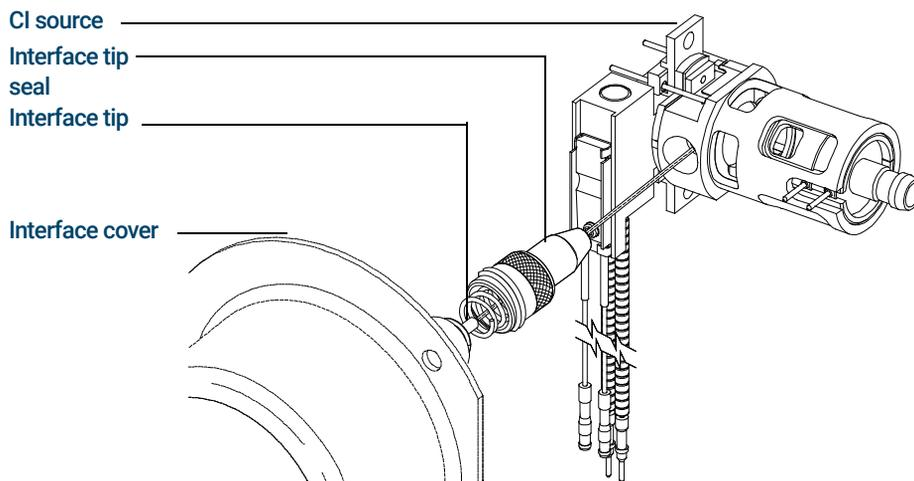
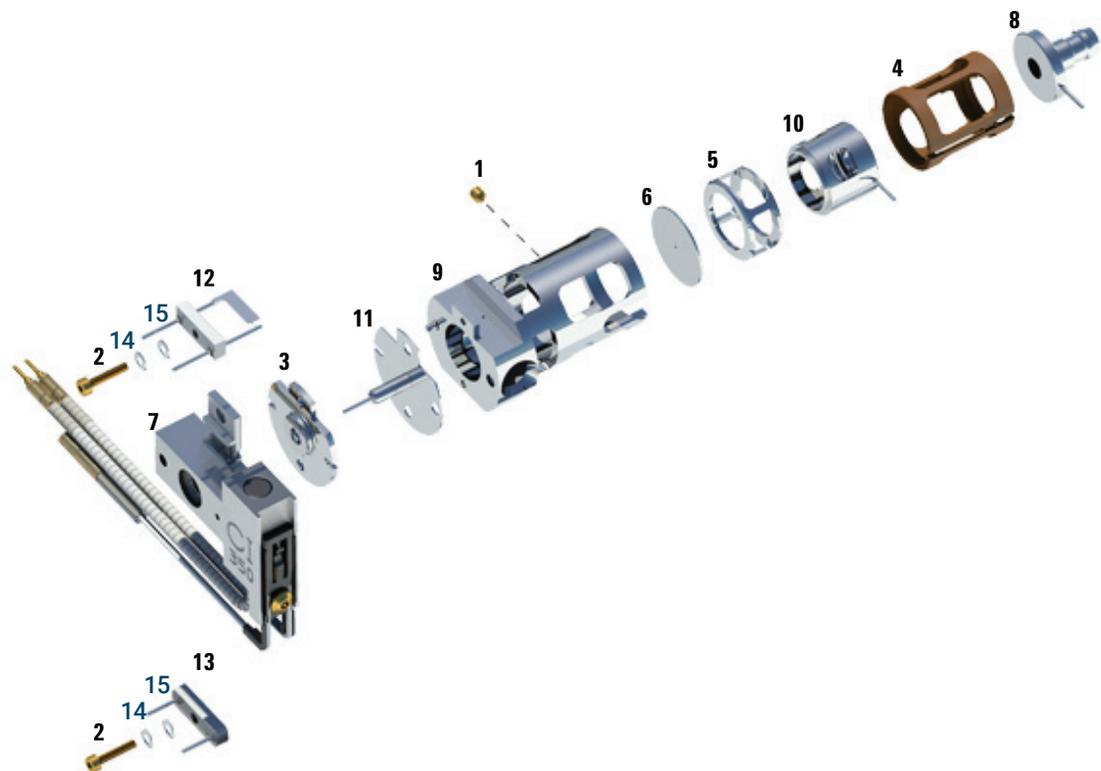

Figure 35. CI source and interface tip seal (used on EI sources also)
Figure 36. CI source exploded view
The CI source has only one filament. (See **Figure 36** on page 162.) A “dummy” filament provides connections for the extra filament wire(s) (1 wire on the 7010 and 2 wires on the 7000).
The drawout plate on a CI source forms another wall of the ionization chamber. (See **Figure 36** on page 162.) The ion beam passes through the hole in the drawout plate and into the drawout cylinder. The drawout cylinder is slotted. The slots correspond to slots in the source body. These slots allow carrier gas and ionized sample molecules or fragments to be pulled away by the vacuum system. The drawout plate and drawout cylinder are both at ground potential.
The CI source (See **Figure 35** and **Figure 36** on page 162) is similar to the EI source, but only has one part in common with the EI source – the entrance lens. The single CI filament has a straight wire and a reflector. A “dummy” filament provides connections for the other wires.
**Table 10** Parts list for CI source (Figure 36)
**Table 10** Parts list for CI source (Figure 36) (continued)